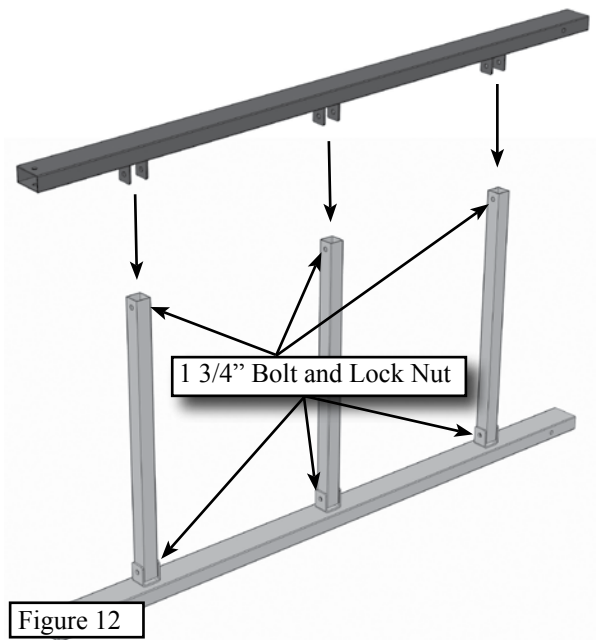

Figure 12
**Step 3.** Place the remaining upper ladder support column on the three rungs as shown in **Figure 12**. Use three 1 3/4" bolts with lock nuts to secure. Hang tighten these bolts.